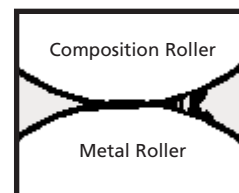

Figure 1. Ink tack.
- Ink tack is a measure of the resistance of an ink film to being split (Figure 1).